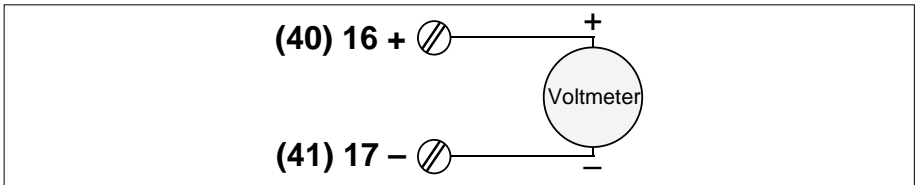

Figure 13-6 Voltage outputs calibration setup
- 5 Measure the output voltage. Figure 13-6 shows the setup. This should approximately equal the top end of the selected range, i.e. 5V or 10V. Then increment ST to '2'.